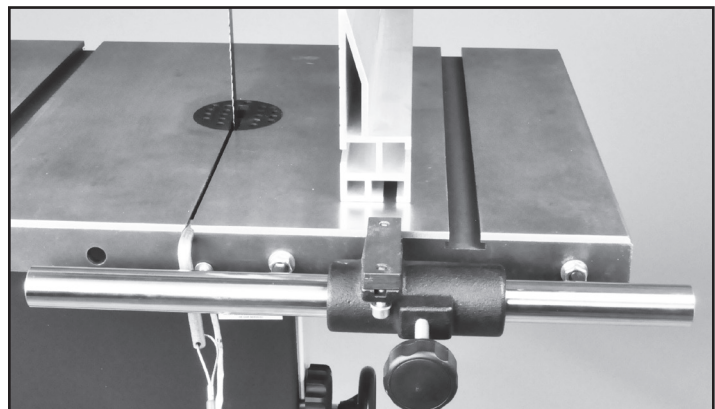
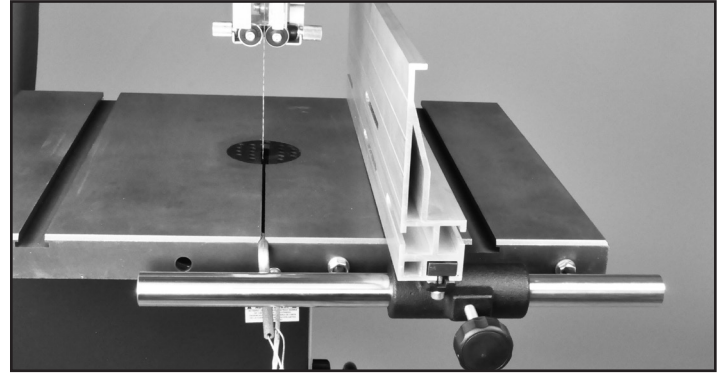

FIGURE 37
FIGURE 38
2. Unscrew and remove the front fence Guide Rail (#11F) from the front lip of the table. Flip the rail over 180° end-to-end and re-attach it to the right side of the table front edge, through the two pre-bored holes to the right of the blade slot in the table. Fig. 37.
5. Turn the fence around 180° end-to-end and slide it back onto the sliding block. Fig. 37. Once in place, retighten the two hex screws to secure the fence in position on the carrier. Fig. 38.